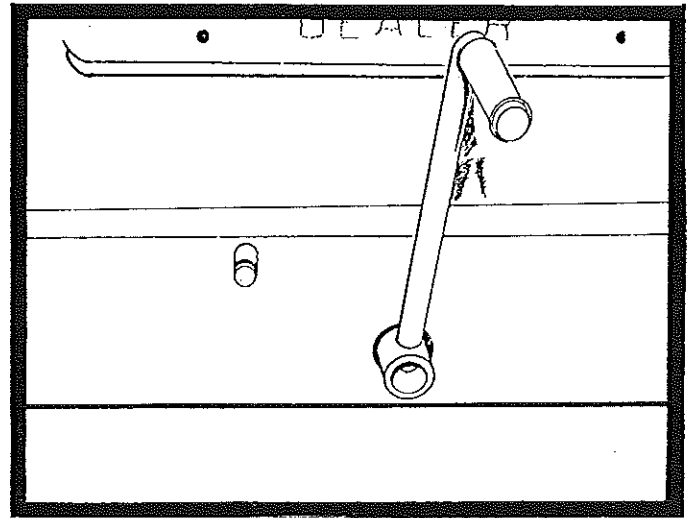

FIGURE 4
10. Once the crank handle is securely placed on the crankshaft, turn the handle in a clockwise motion to raise the top until it is fully extended or the tent fabric becomes reasonably taut, whichever occurs first. See Figure 4.